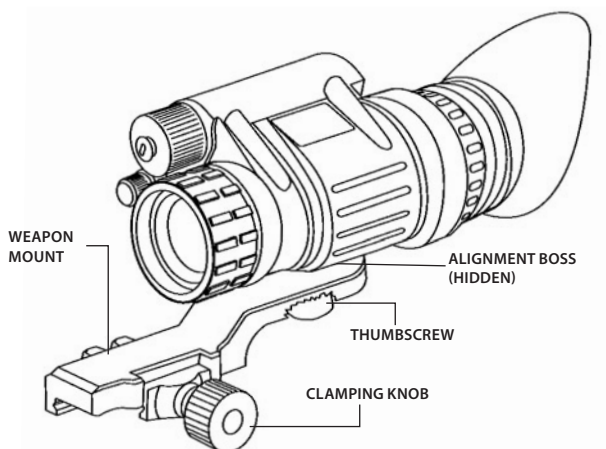

Figure 3-14. Weapon Mount Usage
- (1) Orient the monocular and weapon mount as shown in Figure 3-14. Be sure to align the alignment boss on the weapon mount with the alignment groove in the monocular.
- (2) Screw in the thumbscrew to secure the monocular to the weapon mount.
- (3) Loosen the clamping knob on the weapon mount. Position the weapon mount with the monocular onto the weapon's mounting rail. Tighten by turning the clamping knob.